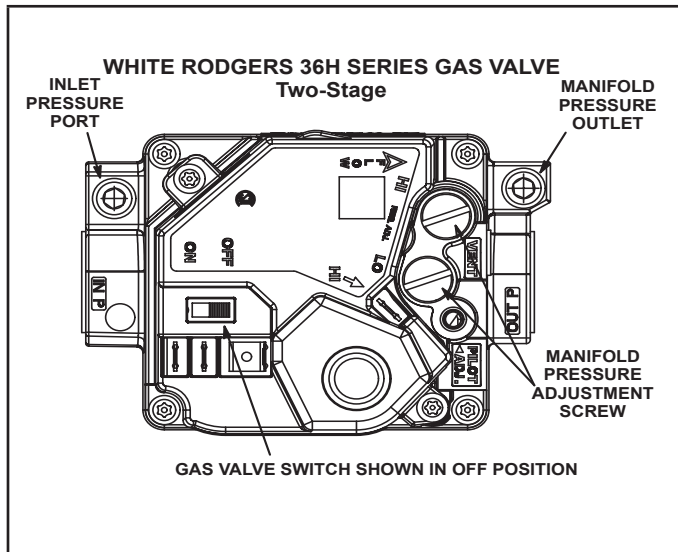
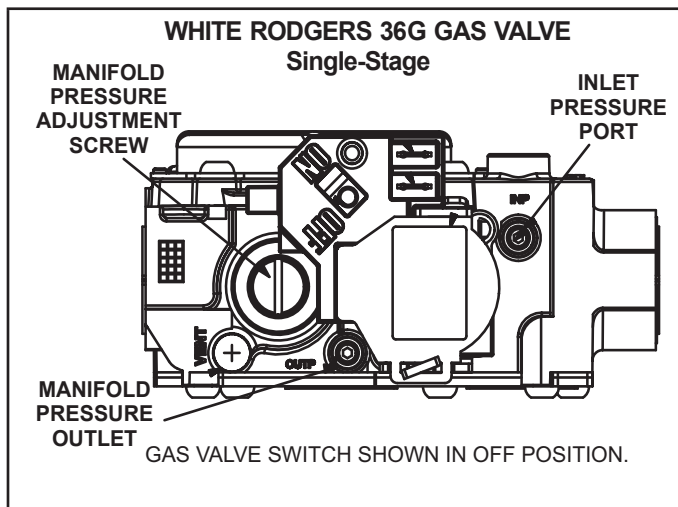

FIGURE 13
FIGURE 14
OPERATION OF WHITE RODGERS 36H SERIES VALVE (FIGURE 13) AND WHITE RODGERS 36G SERIES GAS VALVE (FIGURE 14)
For White Rodgers 36G valve (Figure 14), an inlet post located on the gas valve provides access to the supply pressure. Open the inlet port by backing out the 3/32" hex screw one turn. Connect a piece of tubing over the inlet post and route to a measuring device to measure supply pressure.
For White Rodgers 36H valve (Figure 13), supply pressure is accessed by removing 1/8" hex screw. Remove the 1/8" hex screw and install a 1/8" fitting with hose barb. Connect tubing from the barbed fitting and route to measuring device to measure supply pressure.
For White Rodgers 36G valves (Figure 14), turn the supply pressure 3/32" hex screw one revolution back into the gas valve.
For White Rodgers 36H valves (Figure 13), remove supply pressure barbed fitting and reinstall the 1/8" hex screw.
For White Rodgers 36G valves (Figure 14) manifold pressure, back out the 3/32" hex screw one turn, connect a piece of 5/16" tubing and connect to the "+" side of the measuring device.
For White Rodgers 36H valves (Figure 13) manifold pressure, remove the 1/8" hex screw, install 1/8" fitting with hose barb, connect hose from barb to "+" side of measuring device.
- 4 - If necessary, make adjustments. Figure 13 and 14 show adjustment screw(s) locations.
For White Rodgers 36G valves (Figure 14), turn the manifold 3/32" hex screw one revolution back into the gas valve.
For White Rodgers 36H valves (Figure 13), remove 1/8" fitting with hose barb and reinstall 1/8" hex screw.